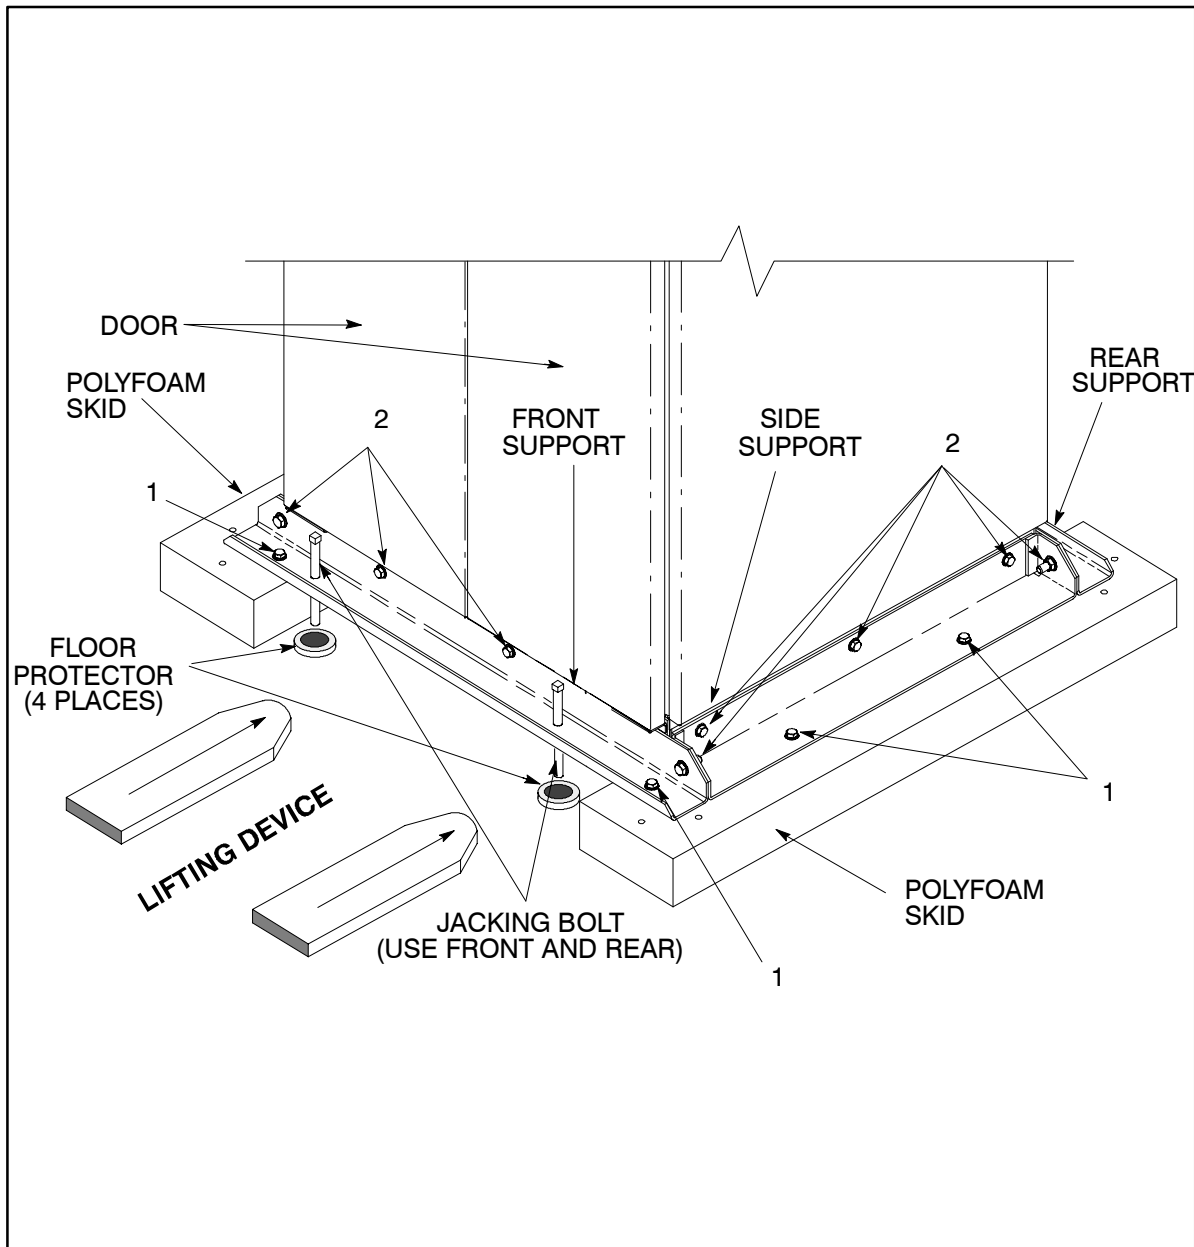

Figure 4. Detail of Shipping Supports
| Figure 4. | Detail of Shipping Supports | 10 |
3. Loosen, but do not remove the hardware holding the plywood/polyfoam skids to the front and rear supports (labeled "1" in Figure 4 – 8 places).
8. Remove the hardware labeled “2” in Figure 4, holding the front, rear and side supports to the module base (14 places). Discard or recycle the hardware and support brackets in a responsible manner.